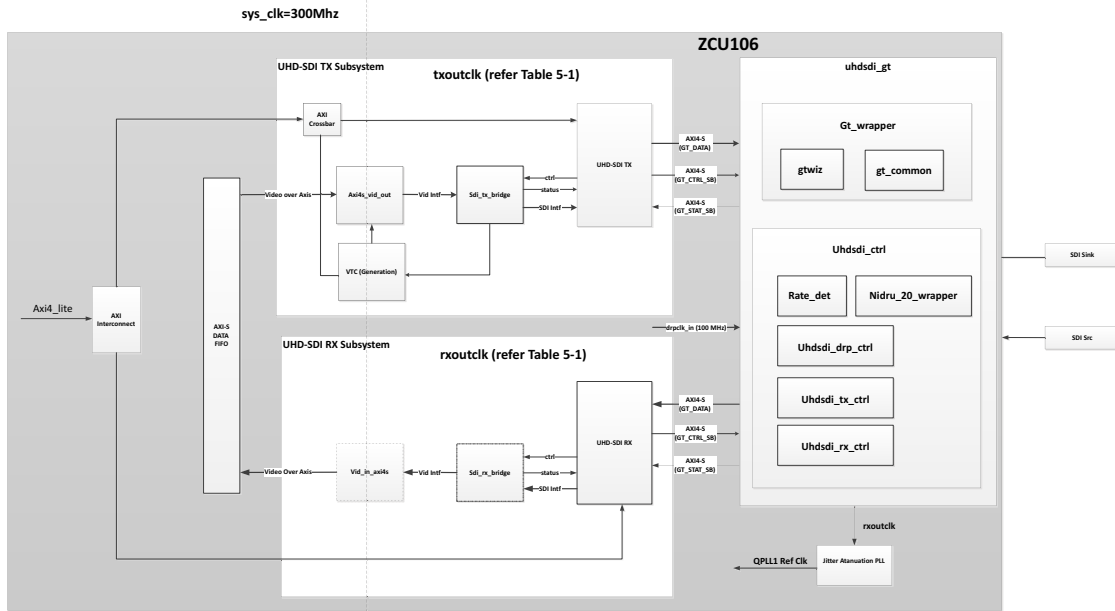

Figure 5-1: ZCU106 UHD-SDI Pass-Through Design
The UHD-SDI Pass-through example design, shown in Figure 5-1, is built using UHD-SDI TX and RX Subsystems. Video or image data is received and processed by UHD-SDI RX Subsystem. The clock is recovered by Xilinx® Ultrascale™+ GTH transceiver (RX) and feed to on-board PLL for jitter attenuation. A jitter-attenuated clock is used as a reference clock by the GTH transceiver for the TX data path. An AXI4-Stream FIFO is used for synchronization and temporal storage between the UHD-SDI RX Subsystem and UHD-SDI TX Subsystem. The UHD-SDI TX Subsystem transmits SDI data from AXI4-Stream FIFO after the application programs the UHD-SDI TX Subsystem subcore registers based on the received SDI stream and ST-352 payload packet data. The example design application software runs on the Zynq® UltraScale+ MPSoC ARM processor subsystem (PS) and is fully software controlled.
Note: Zynq UltraScale+ MPSoC PS is not shown in the Figure 5-1 for simplicity.